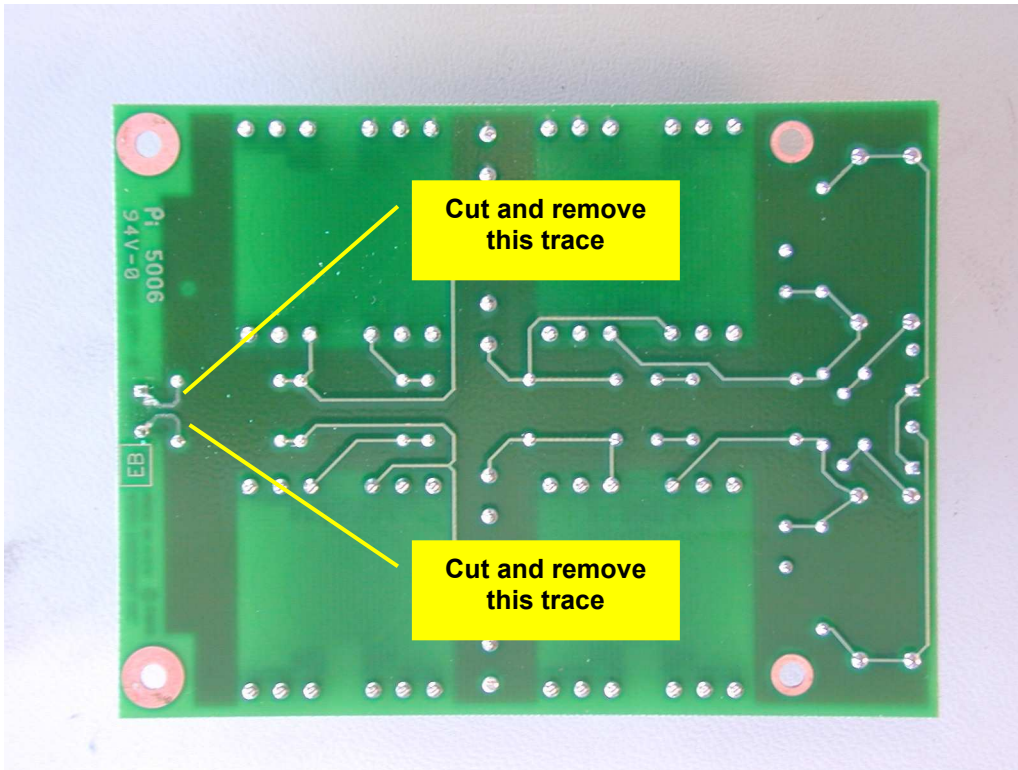

Figure 3
7. Carefully cut and remove the two traces noted in Figure 3. Do not remove the solder pad connections for Connector P1 or the resistor solder pad connections. These connections will be used to solder the 1 MFD capacitors.